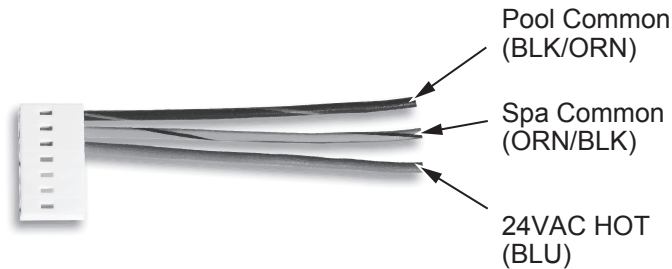

Figure 30. 7-Pin Remote Interface Harness
The P-156 heaters are equipped with the ability to work with external remote controls. The supplied 7-pin remote wiring connector supplies power out to either a toggle switch or the switch contacts of a third party remote. See Figure 30. The remote works by either making or breaking the circuit created by the remote wiring. Typically, a remote does not supply power to the heater, it only provides a switching function to turn the heater On or Off. **If your remote is supplying its own voltage to the heater, it will not work with this heater and may damage the digital circuit board.**
5. On the "Remote Interface Harness", connect the BLUE wire to one side of the "REMOTE" switch and connect the other side to either the ORANGE/BLACK wire for "SPA" operation or the BLACK/ORANGE wire for "POOL" operation. See **Figure 30**.
4. On the "Remote Interface Harness" connect the BLUE wire to one side of the "REMOTE" switch and connect the ORANGE/BLACK wire for "SPA" operation and the BLACK/ORANGE wire for the "POOL" operation. See **Figure 30**.